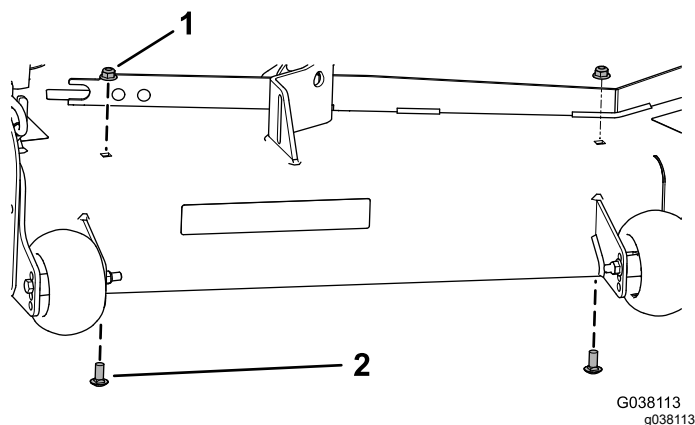

Figure 23
1. Remove the 2 existing flange nuts (3/8 inch) and 2 carriage bolts (3/8 x 7/8 inch) from the mower deck (Figure 23).